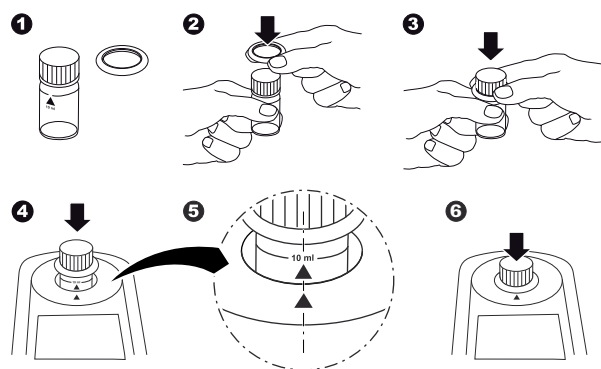

Fig. 4 Correct position of the vial (Ø24)
- The vials must be positioned in the sample chamber for zeroing and test, with the mark on the vial (white triangle) aligned with the mark on the photometer. See fig. 4.
2. Place the vial correctly in the sample chamber. See fig. 4.
7. Place the vial correctly in the sample chamber. See fig. 4.